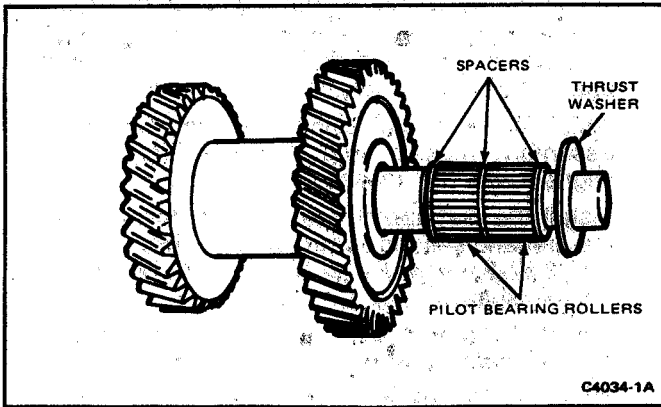

FIG. 18 Countershaft Gear Bearing Rollers Installation
2. Hold the gear in a vertical position and install one of the bearing spacers. Position the 22 pilot bearing rollers in the gear bore. Refer to Fig. 18.